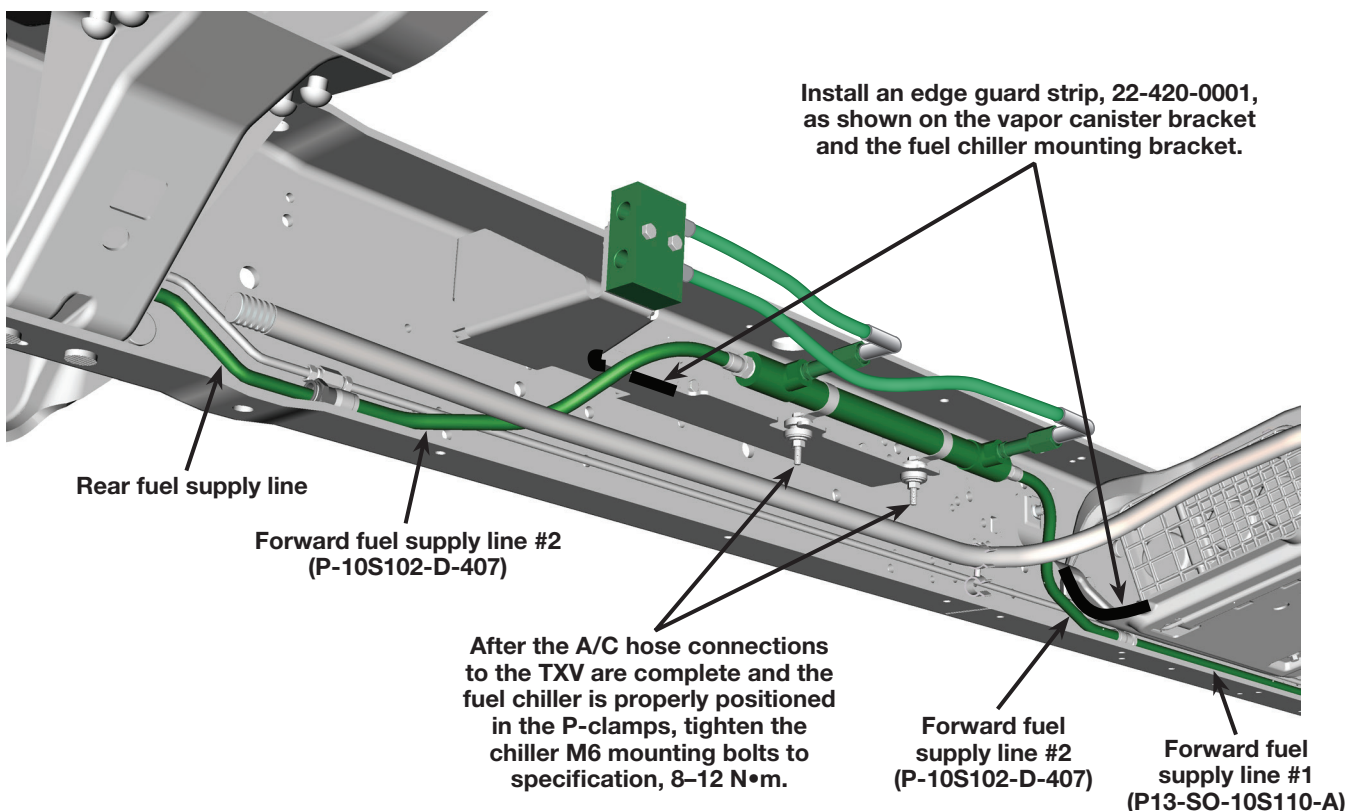

Figure 15 – Chiller Fuel Line Connections
2. Install one edge guard strip, 22-420-0001, on the chiller mounting bracket edge near the rear fuel supply line #2 (**Figure 15**). Install the other strip of edge guard, 22-420-0001, on the vapor canister bracket near the forward fuel line (**Figure 15**).